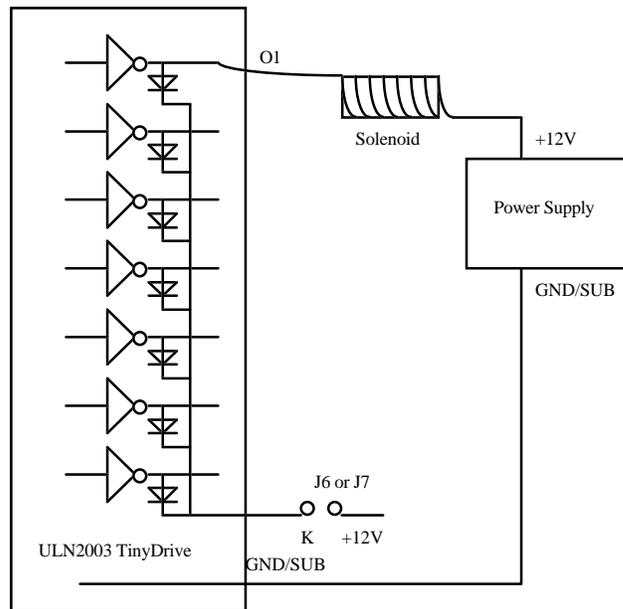

Figure 3.6 Drive inductive load with high voltage/current drivers.
ULN2003 has high voltage, high current Darlington transistor arrays, consisting of seven silicon NPN Darlington pairs on a common monolithic substrate. All channels feature open-collector outputs for sinking 350 mA at 50V, and integral protection diodes for driving inductive loads. Peak inrush currents of up to 600 mA sinking are allowed. U16 and U18 are dedicated high-voltage drivers. These outputs may be paralleled to achieve high-load capability, although each driver has a maximum continuous collector current rating of 350 mA at 50V. The maximum power dissipation allowed is 2.20 W per chip at 25 degrees C ($^{\circ}$ C). The common substrate G is routed to J6 GND pins. All currents sinking in must return to the J6 GND pin. A heavy gauge (20) wire must be used to connect the J6 GND pin to an external common ground return. K and K1 connect to the protection diodes in the ULN2003 chips and should be tied to highest voltage in the external load system. K and K1 can be connected to an unregulated on-board +12V via J6 HV+. **ULN2003 is a sinking driver, not a sourcing driver.** An example of typical application wiring is shown in Figure 3.6.